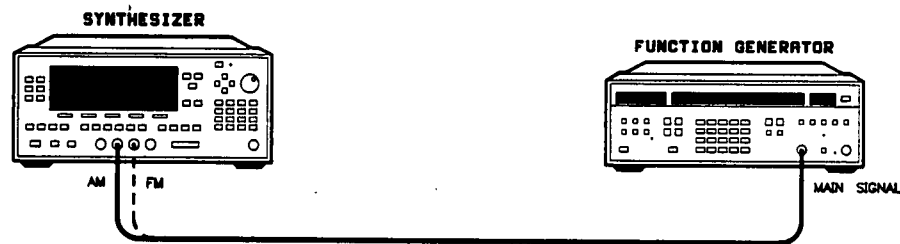

Figure 2-29. Modulation Meter Test Setup
1. Connect the equipment as shown in Figure 2-29. Preset the instruments and let them warm up for at least one hour.